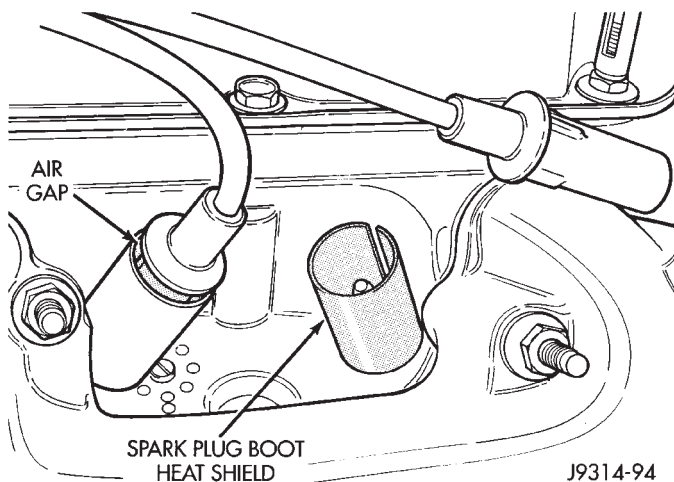

Fig. 37 Heat Shields—5.2L Engine
5.2L Engine: Spark plug cable boot heat shields are pressed into the cylinder head to surround each cable boot and spark plug (Fig. 37). These shields protect the spark plug boots from damage (due to in-
tense engine heat generated by the exhaust manifolds) and should not be removed. After the spark plug cable has been installed, the lip of the cable boot should have a small air gap to the top of the heat shield (Fig. 37).